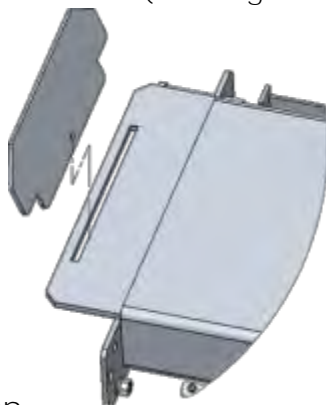

Fig.29
O. Install front wheel platform baffles (See Fig. 29